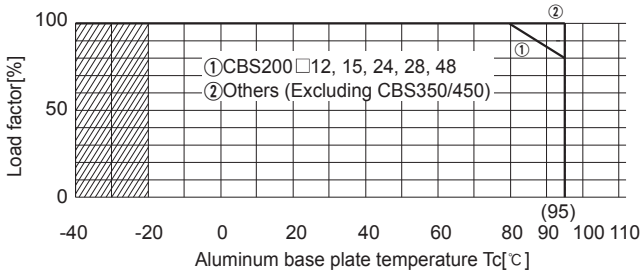

Fig.7.2 Derating Curve Characteristics
Derating curve characteristics with respect to aluminum base plate temperature are shown in Fig. 7.2. Measure the temperature of the base plate in a location away from direct airflow (A). Note that operation within the hatched areas will cause a significant level of ripple and ripple noise.